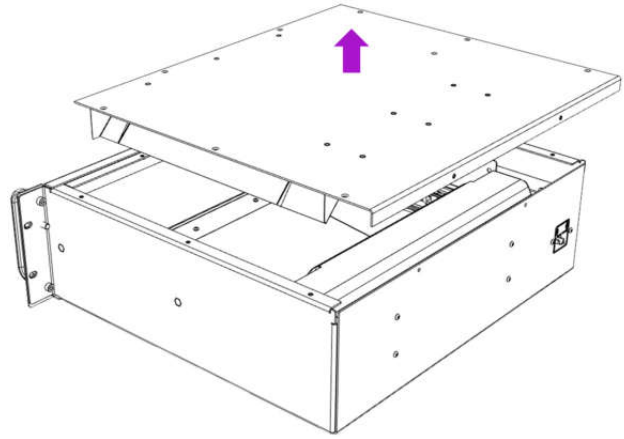

Fig. 14
7. Lift upper housing lid. (Fig. 14)